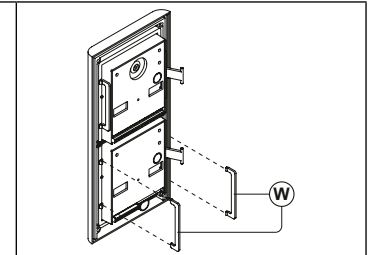

Fig. 3
Fit the anti-tampering locks (W) as shown in **Fig. 3**.
⚠ In order to prevent water ingress we highly recommend using a silicon sealant between the wall and the back box **(C) ON THE LEFT, TOP AND RIGHT SIDES ONLY AND AROUND ALL HOLES **(D)**. DON'T USE SILICON SEALANT ON THE BOTTOM SIDE OF THE BACK BOX (Fig.3);**